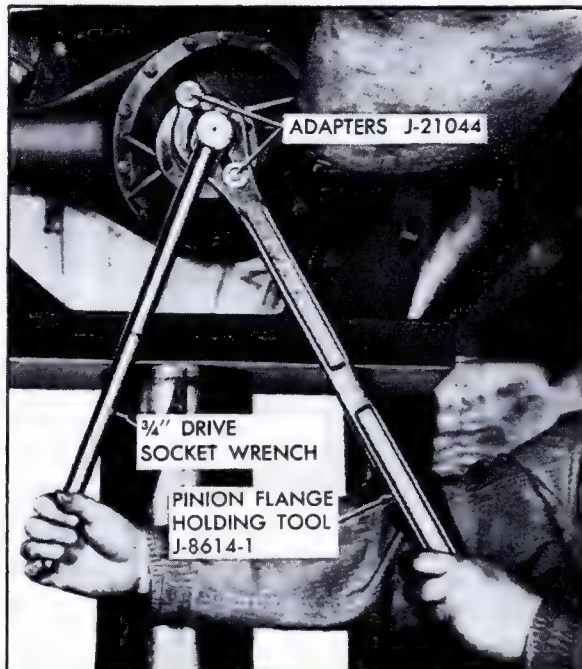

Fig. 4-43 Tightening Pinion Nut
7. Install socket on pinion nut through hole in Holding Tool and tighten nut to specification listed below, using 3/4 inch drive socket wrench, Fig. 4-43.